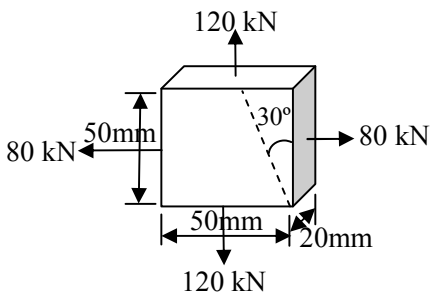

Fig. 10 Que 5(b)
- (b) A square steel plate 50 mm x 50 mm and 20 mm thick is subjected to axial tensile force in horizontal and vertical direction 80 kN and 120 kN respectively as shown in **Fig10**. Calculate normal and tangential stresses on plane inclined at 30° to the plane carrying 80 kN force. Also calculate resultant stress and angle of obliquity. **05**